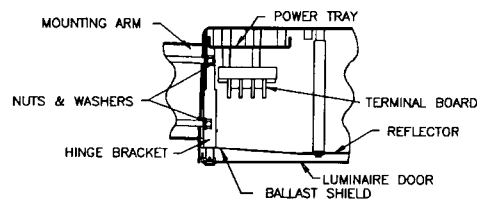

Figure 3
2. Install two (2) studs ensuring full penetration of nuts on nut plate.
5. Install luminaire and secure with flat washers and locknuts provided (See Figure 3). Align as nuts tightened.